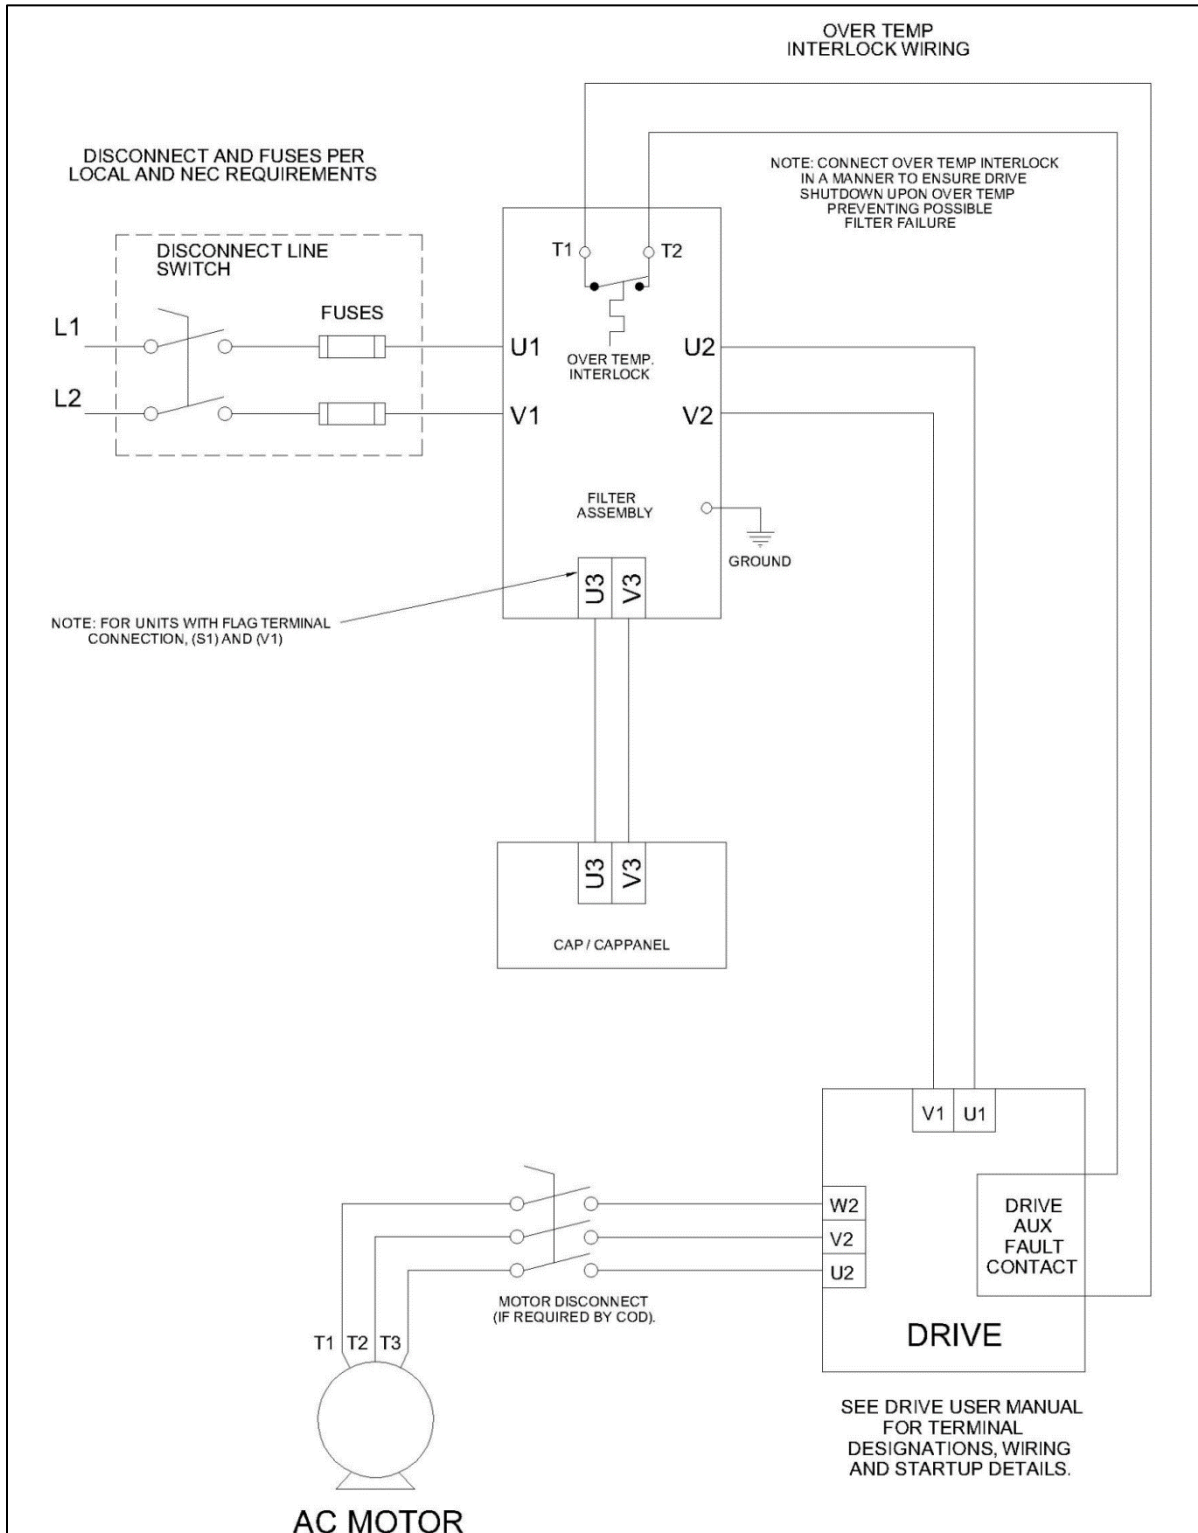

Figure 5-3: Matrix ONE 240V & 480V Open Panel Interconnection
- For panel mounted filter applications, interconnection between the filter, its power source, the cap-panels, and the drive is shown in Figure 5-3: Matrix ONE 240V & 480V Open Panel Interconnection (p22).